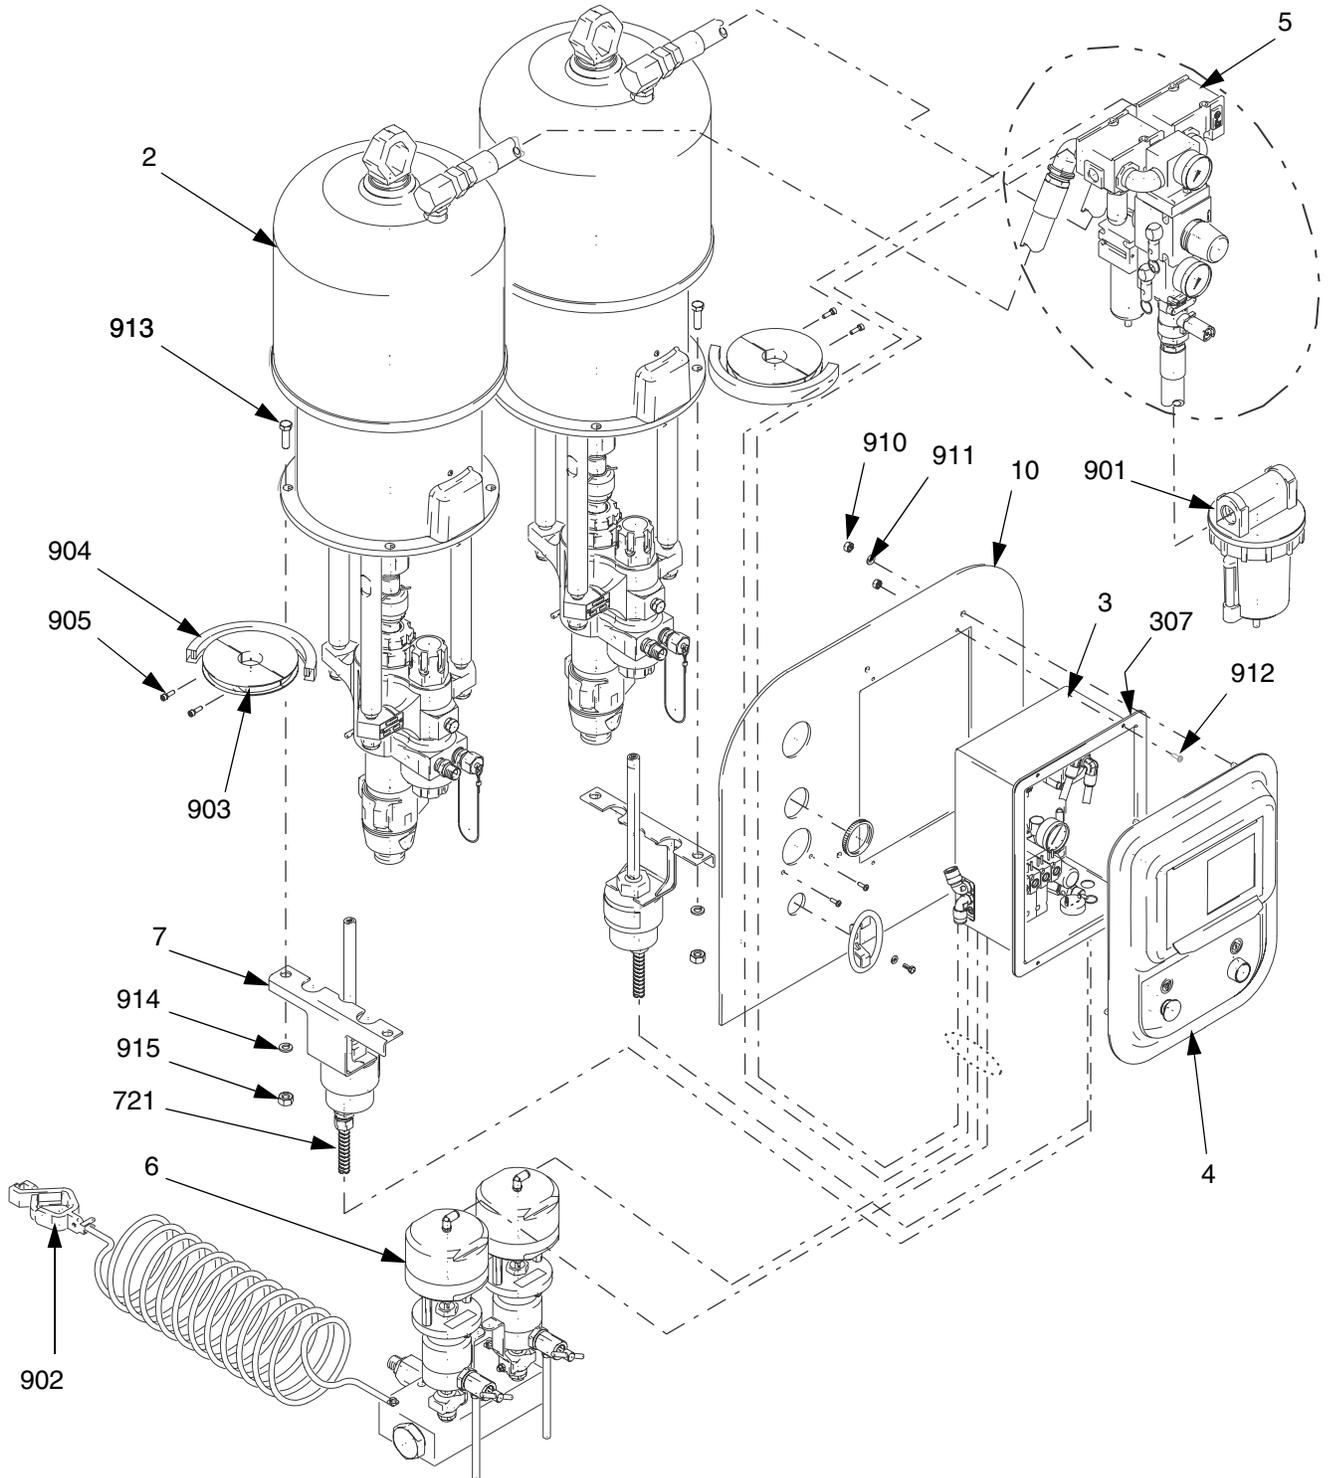

FIG. 1
1. Secure magnet holders (903) to the pump (2) motor displacement rods with screws (905). FIG. 1.
2. Install a short magnet strip then a long one (904) on each magnet holder (903). Secure with tape supplied.
3. Secure pumps (2) on mounting brackets with two 3/8 x 1-1/4" screws (913), lockwashers (914), and nuts (915).
4. Secure sensors (7) on pumps and pump mounting brackets with two screws (913), lockwashers (914), and nuts (915).
1. Mount control box (3) to mounting plate (10). FIG. 1.
- a. Slide gasket (307) over back of pneumatic control box (3), against lip. Insert box through mounting plate (10).
- b. Secure box (3) to plate (10) with 8-32 UNC screws (912).
FIG. 1 and FIG. 3
1. Mount pneumatic control assembly (3) to mounting plate (10). FIG. 1.
3. Connect ground wire (315) to ground stud on back of cover with nut (311).
4. Secure cover (4) to mounting plate (10) with lock-washers (911) and nuts (910). FIG. 1.
1. Secure metering valve assembly (6) to cart/stand with screws (913), washer (914), and nuts (915). FIG. 1, page 9.